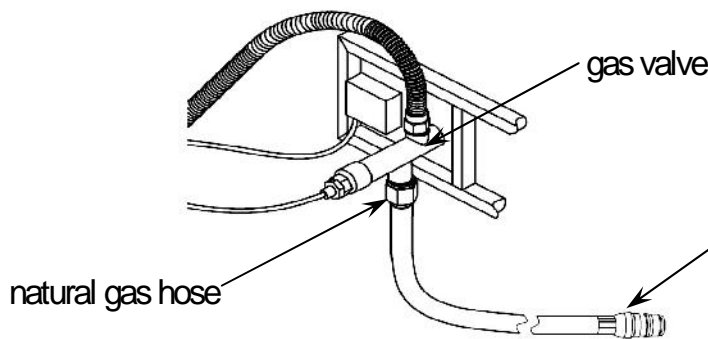
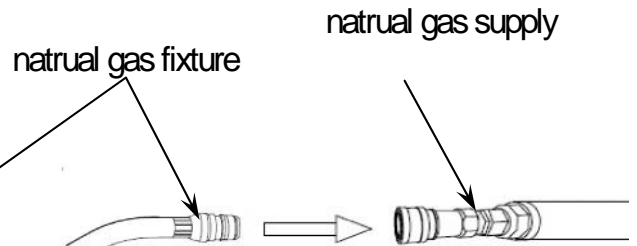

Figure 14
Figure 15
- Connect the natural gas hose with the gas valve by screwing clockwise tightly, see Figure 14. Plug the natural gas fixture into the natural gas supply piping system, see Figure 15.